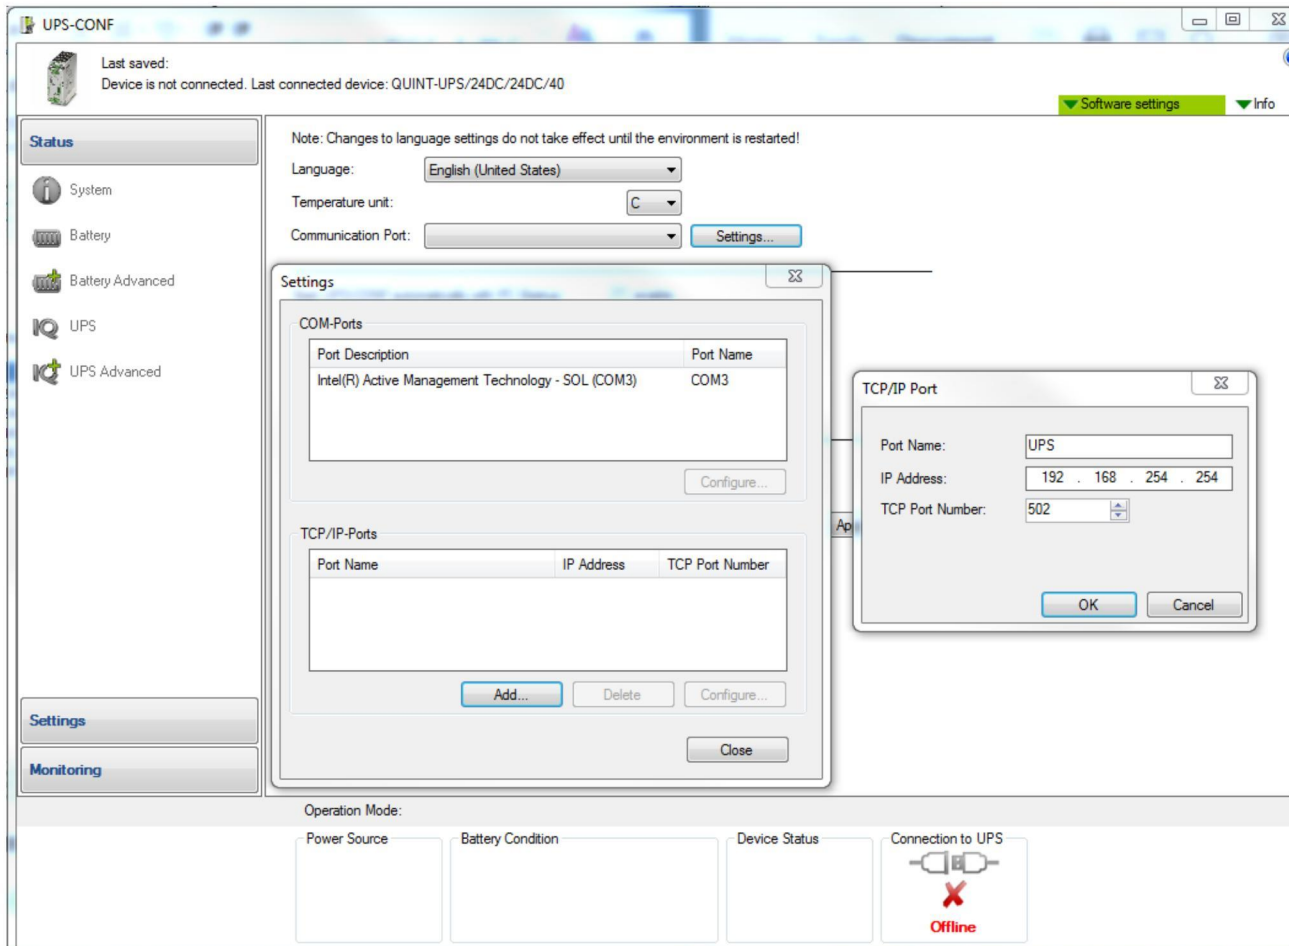

Figure 3 TCP/IP port settings
3. Click the “Add” button to launch the “TCP/IP Port” dialog box (see Figure 3).